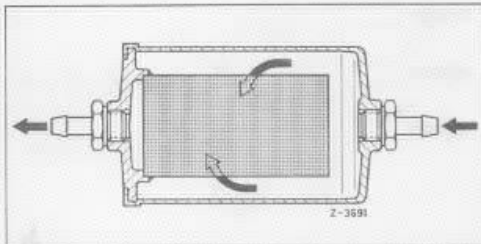

FIG.4
2. The FUEL FILTER (Fig.4) consists of a paper element and a metal casing. It can not be cleaned and should be replaced every 30,000 miles. More frequent replacements may be necessary under unfavorable conditions.